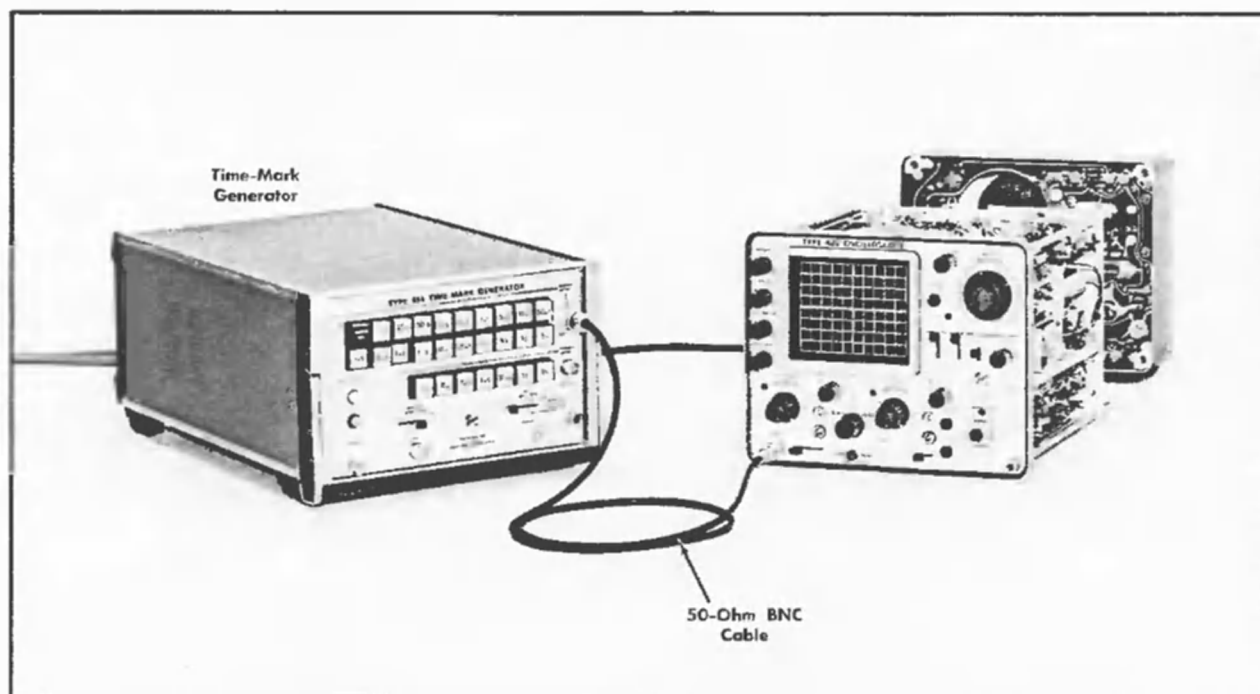

Fig. 6-10. Initial test equipment setup for steps 6—10.
①
- Test equipment setup is shown in Fig. 6-10.